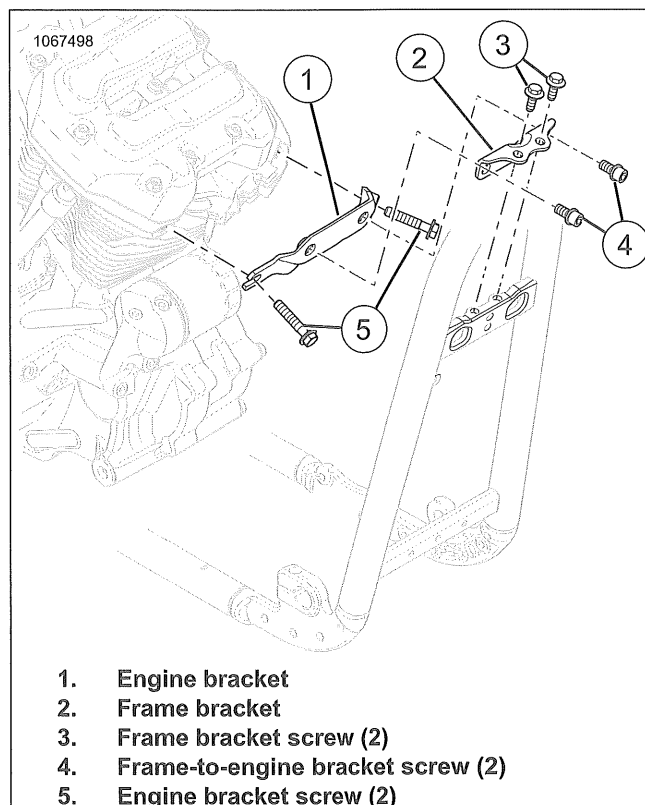

Figure 4-16. Upper Front Engine Mount
1. See Figure 4-16. Remove frame-to-engine bracket screws (4).
2. Remove frame bracket (2).
- a. Remove frame bracket screws (3).
- b. Remove frame bracket (2).
3. Remove engine bracket (1).
- a. Loosen engine bracket screws (5).
- b. Remove engine bracket (1) by lifting left side up then pulling to the left.
1. See Figure 4-16. Install engine bracket.
- a. Install engine bracket (1).
- b. Hand tighten engine bracket screws (5).
- a. Install frame bracket (2).
- b. Install frame bracket screws (3). Hand tighten.
3. Install frame bracket-to-engine bracket screws (4). Hand tighten.
- a. Tighten engine bracket screws (5).